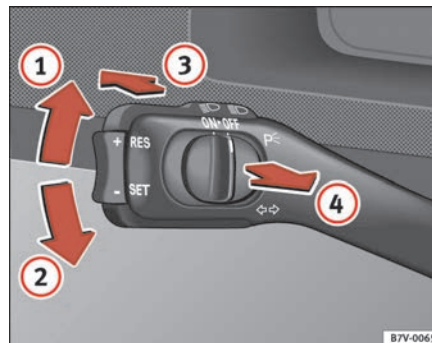

Fig. 73 Turn signal and main beam headlight lever
- Move the lever all the way up ⇒ page 112, fig. 73 ① to indicate **right**, and all the way down ② to indicate **left**.